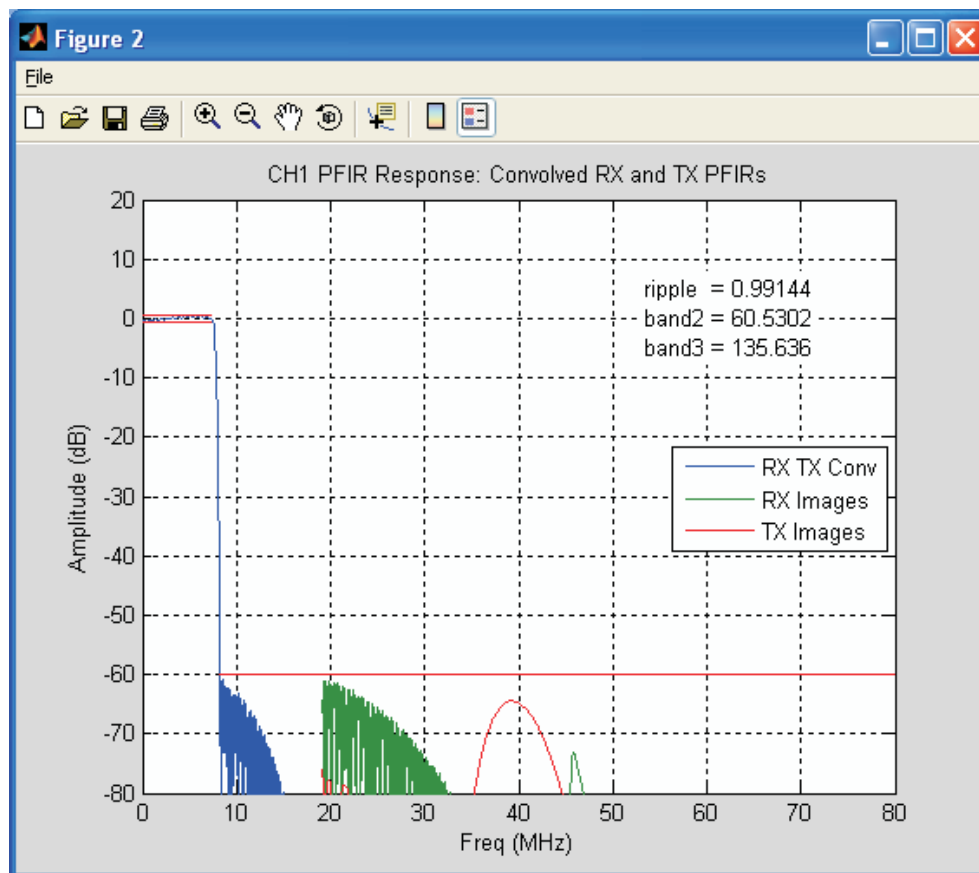

Figure 31. (Figure 2*N window) Frequency Response with Convolved End to End Response
- **Plots - RX/TX CONV**—plots the convolved RX + TX filter response, including CIC compensation and design limits. (See Figure 31 for an example.)
The frequency response for the convolved end-to-end response is displayed in a window labeled Figure 2*N (Figure 31), where N is the channel number. The even-numbered figures also display ripple and stopband limits in red, and actual ripple and stopband amplitudes.
Examining the Passband ripple for the complete response in Figure 31, measure it at 1.12 dB or 0.1 dB greater than the design requirement.